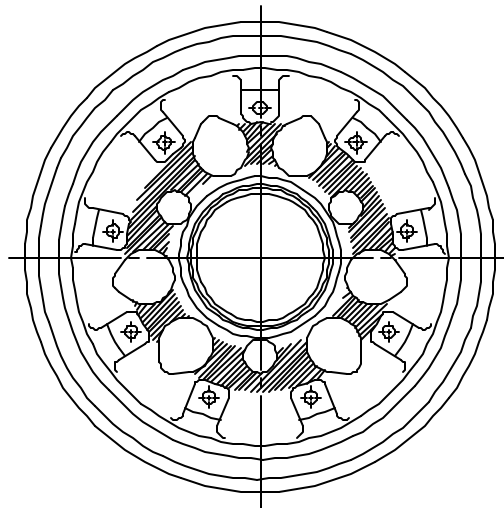

Figure 1
- B. Wipe down and clean the hub area and web area of both inner and outer wheel halves of each wheel with MEK or appropriate cleaning solution (Ref. Figure 1). Rotate wheel as needed to gain access to the subject areas of the inner wheel half.
- C. Carefully examine the web areas (spokes) between the lightening holes of both the inner and outer wheel halves on each wheel. Refer to Figure 1 for area locations.
- C. Penetrant inspect each wheel half, noting in particular the web areas (spokes) between the lightening holes, as shown in Figure 1.